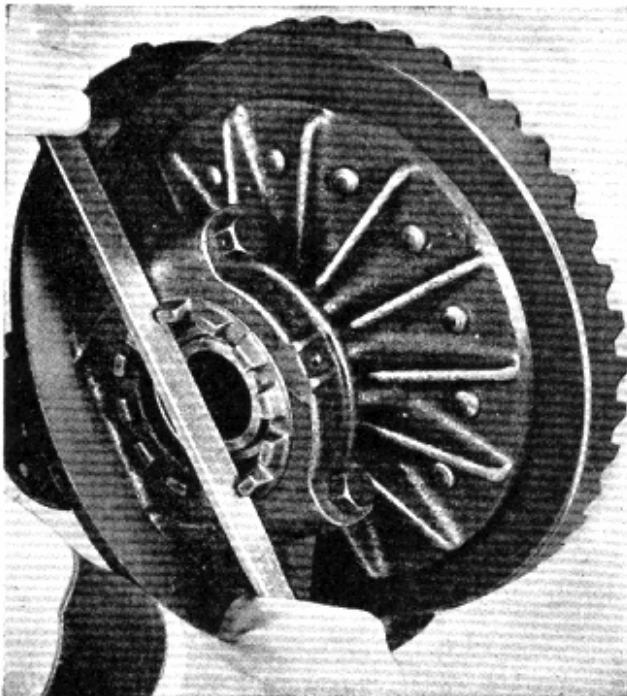

Fig. 40—Adjusting Differential Side Bearings
- Back off the right hand adjusting nut and tighten the left hand adjusting nut just to a point where all lash between the ring gear and pinion is removed. Then back off the left hand nut approximately two notches and to a locking position. Tighten up the right hand nut as tight as possible, then back it off until it is free of the bearing. Retighten the nut until all the play in the bearing is removed and then one or two notches more to a locking position. (See Fig. 40).